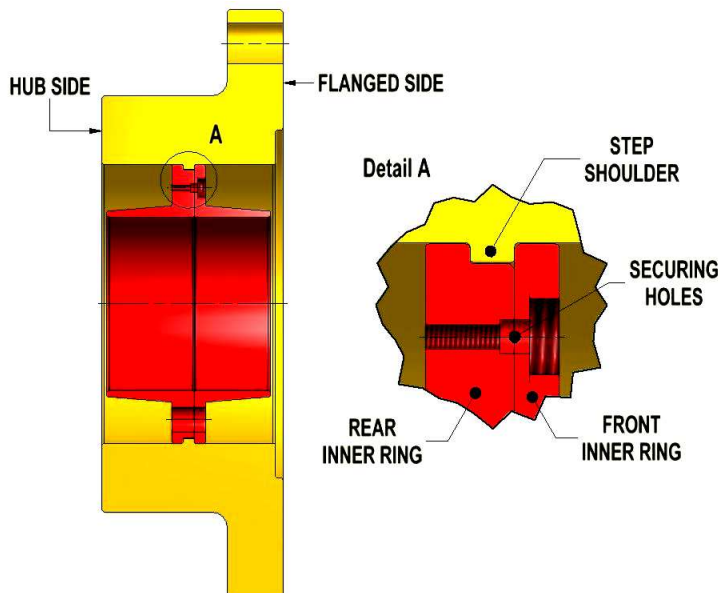

Figure 8. Re-assembling of inner rings of Locking Assembly MAV 7161
2. Insert rear inner ring into flange bore from hub side, until it bottoms against step shoulder in flange's bore (see Figure 8).
3. Insert front inner ring into flange bore from flanged side until it bottoms against step shoulder in flange's bore and face of rear inner ring (see Figure 8).